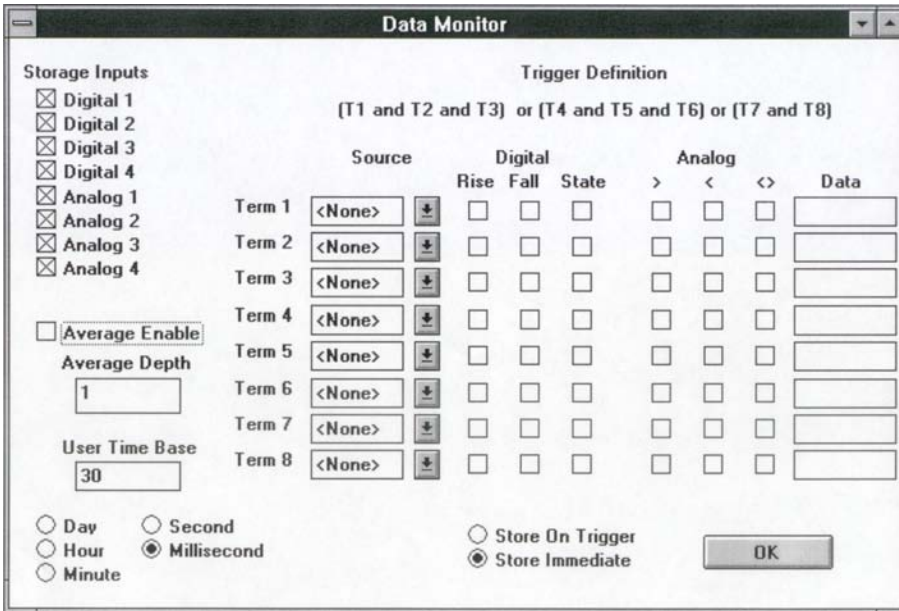

Figure B-3: Test setup screen
- ↪ Select the Configure -> Setup pull-down menu pick, and configure the data monitor to record all of the digital and analog inputs. You can leave all the other options at their default. The data monitor will default to store immediate with 30 milliseconds between samples. The Setup screen should look like the screen shown in Figure B-3.